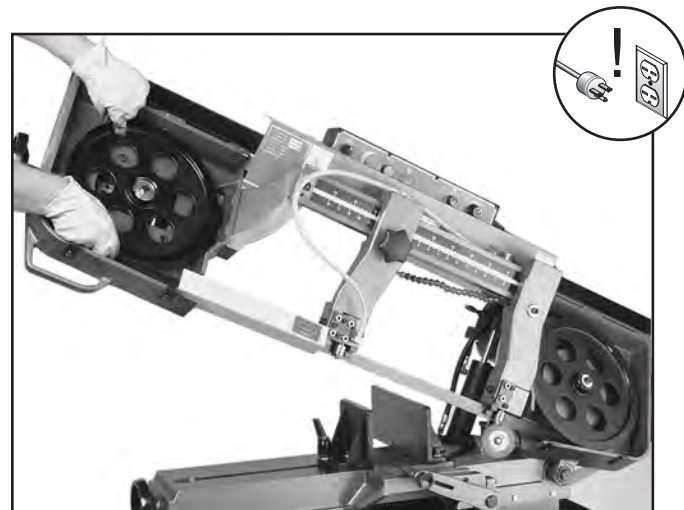

Figure 39. Installing the blade.
7. Install the new blade into the front and rear blade guide roller bearings, as shown in **Figure 39**, then around the bottom and top wheels.